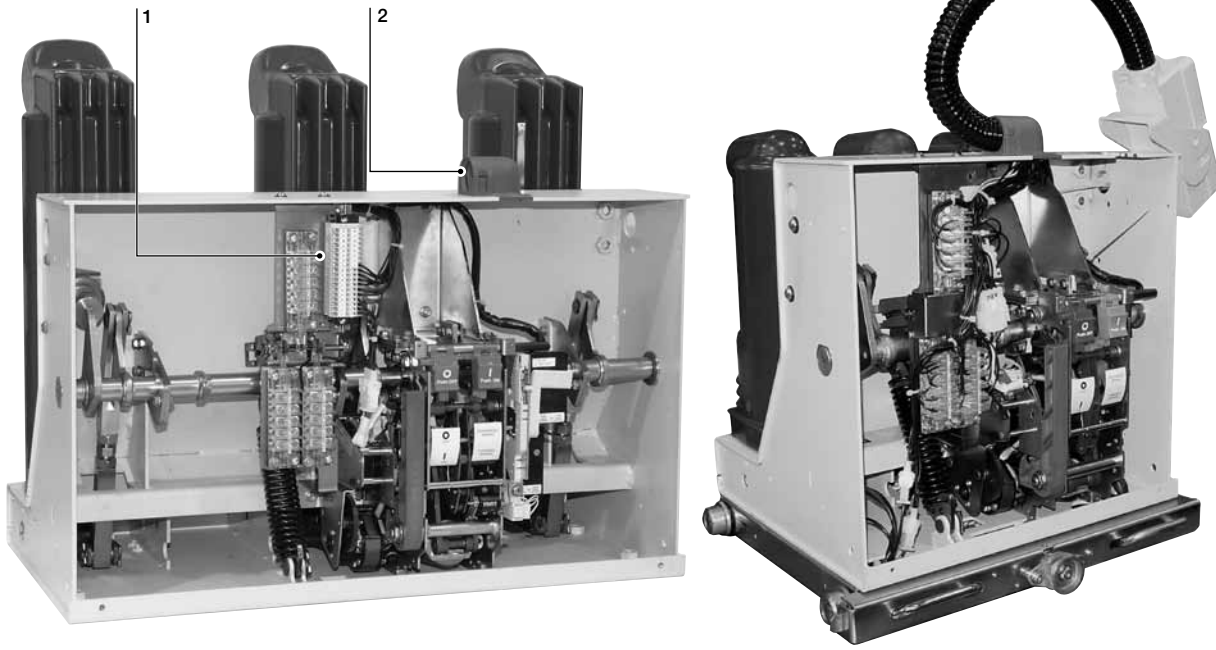

Fig. 10
Connection of the circuit-breaker auxiliary circuits must be made by means of the terminal box (1) (fig. 10) mounted inside the circuit-breaker and the cables must pass through the connector (2). Outside the connector, the cables must pass through a suitable metal protective cover (pipe, wiring duct, etc.), which must be earthed.